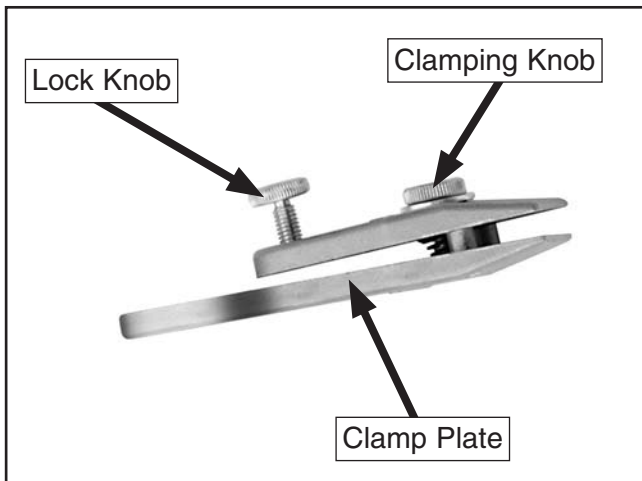

Figure 10. Scissors clamp knobs.
4. Loosen the clamping knob enough to allow one blade of the scissor to slide in, and loosen the lock knob far enough so that it does not extend through the upper portion of the clamp (**Figure 10**).